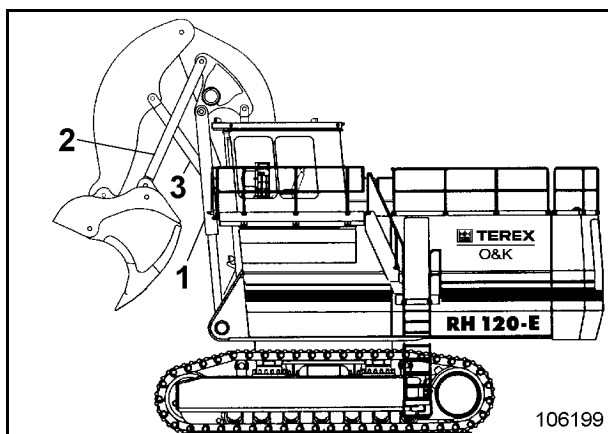
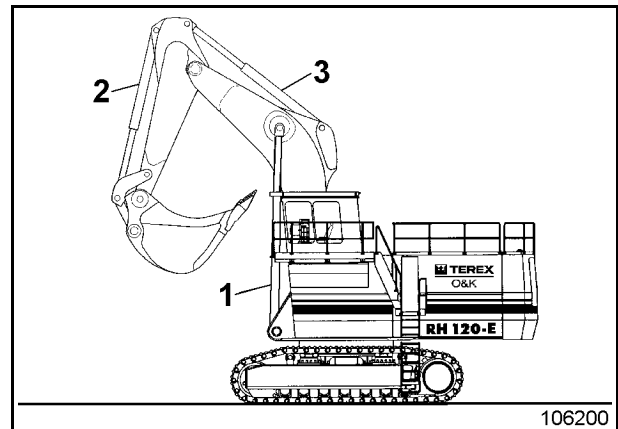

Fig. 2-97:
Fig. 2-98:
Keep the loading or the backhoe bucket close to the ground (Fig. 2-97: / Fig. 2-98:). For a more uniform loading of the tracks, the equipment must, however, be kept at a steep angle.
Loading bucket equipment (Fig. 2-97:)
- ➔ Fully extend boom cylinder (1).
- ➔ Retract bucket cylinder 2 and stick cylinder (3) to such an extent as to reach the position of the equipment (Fig. 2-97:).
Backhoe bucket equipment (Fig. 2-98:)
- ➔ Extend backhoe cylinder 2 and stick cylinder (3) to such an extent as to reach the position of the equipment shown in Fig. 2-98: